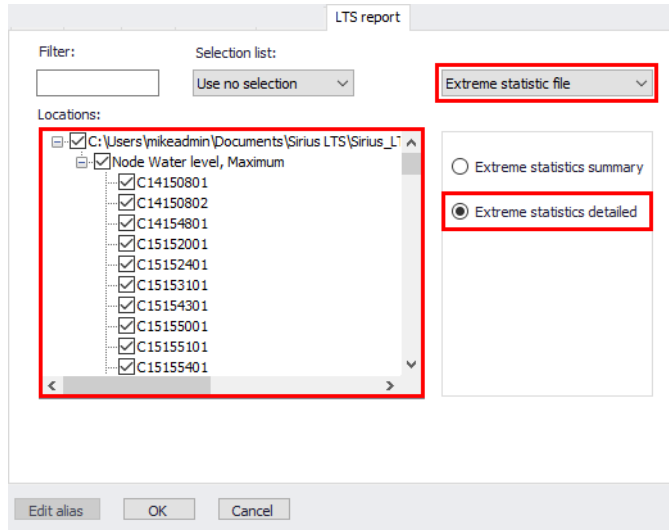

Figure 20.67 Detailed LTS extreme event statistics report configuration
- Access the 'LTS Report' tab on the 'Result Items' dialog (Figure 20.67).
- Choose to generate a report with the 'Extreme statistics file' from the dropdown menu on the upper right side of the page (Figure 20.67).